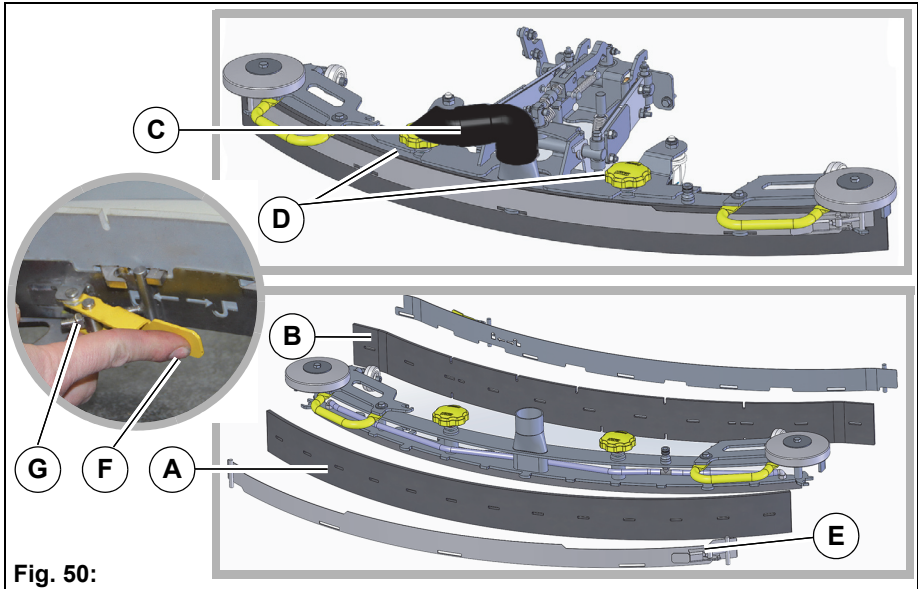

Fig. 50:
Check the sealing strip **Fig. 50-A** and the slot strip **Fig. 50-B** at the squeegee weekly for wear and damage. If the used sealing edge of the strip is worn or damaged, turn or replace the strip. Each strip can be used four times before it needs replacing.
1. Pull off the suction hose **Fig. 50-C**.
2. Loosen the star-shaped handles **Fig. 50-D** and remove the squeegee.
Release the tension strap **Fig. 50-E** and remove.
Fold over the turnbuckle **Fig. 50-F** all the way when releasing so that the tension strap is easier to remove.
The strips can be of different thickness. The turnbuckles must be readjusted if necessary **Fig. 50-G**.